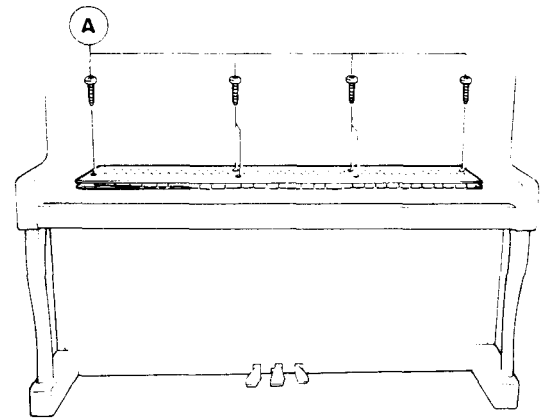

Figure 9.
- 23) Remove the six attachment screws from the drive unit (see (A) of Figure 9.) and take out the unit.